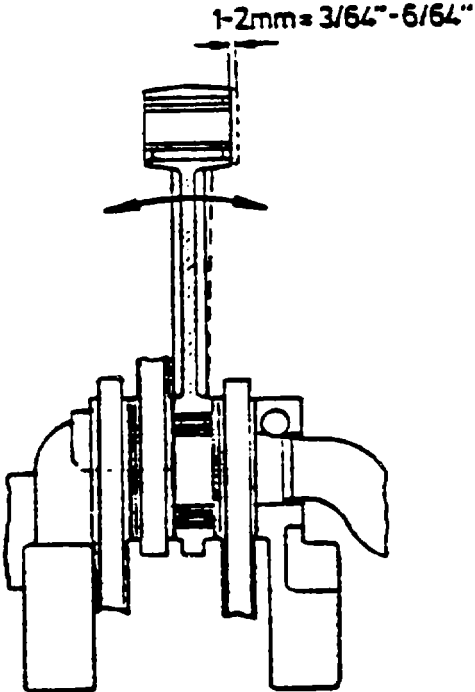

Figure 6-56. Connecting Rod Tolerances
- b. Tilt each connecting rod in turn from side to side and measure the maximum movement. Radial clearance is acceptable if upper end of each connecting rod can be tilted by 1-2 mm (Figure 6-56). If not, replace driving gear assembly.